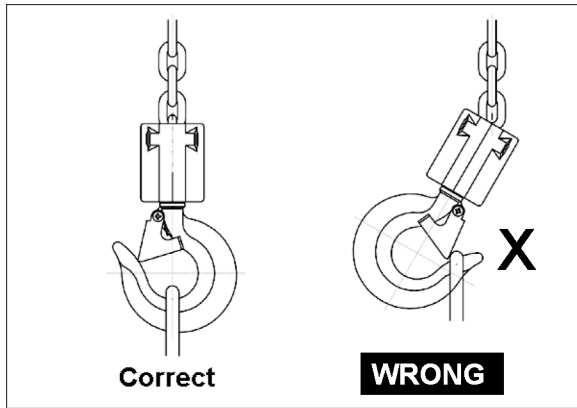

Figure 9
2. Place load sling or chain in center of bottom hook, making sure the safety latch is secure. **Never load the hook in front of the safety latch.** See Figure 9.